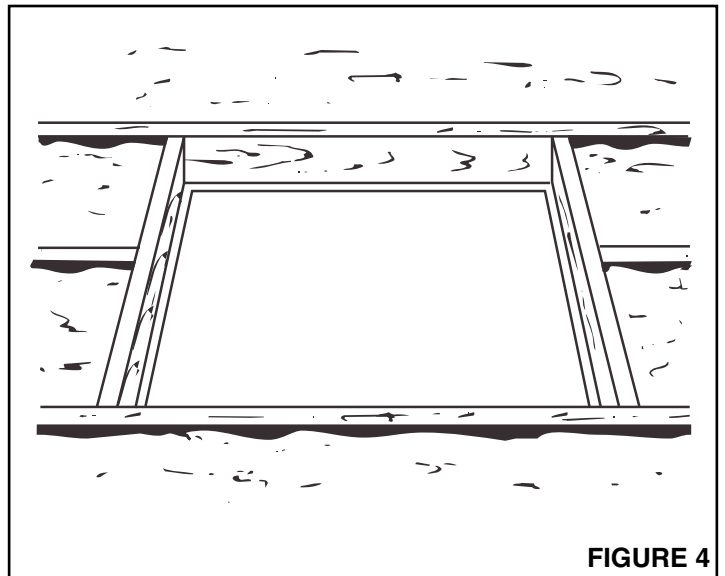

FIGURE 4
- Refer to Figure 4.** Using lumber the same height as joists, insert two brace back pieces that tie into cut-through joists and fasten to intact joists at either end of opening. Install headers of same size lumber between the two braces as necessary to complete framing of opening.